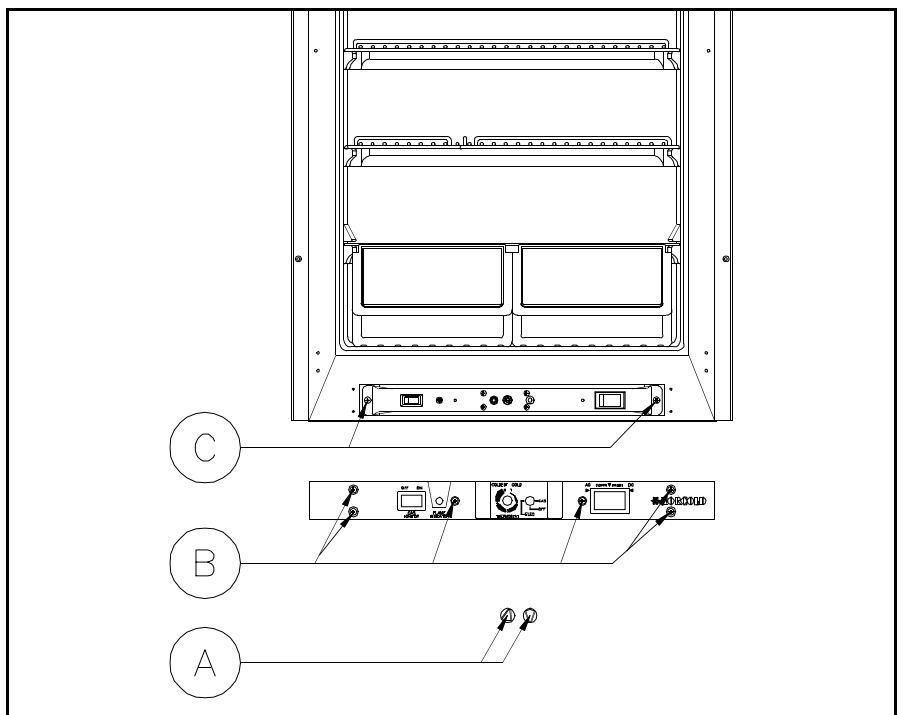

Figure 3.43 Access to Controls
5. If preceding checks did not reveal the cause of malfunction, then access to the control panel is required as shown in Figure 3.43. The first step in gaining access is to remove the two control knobs (A), then remove the (6) Phillips head screws (B) as shown. Once control panel has been removed, you need to remove (2) Phillips head screws (C). Then pull the control mounting bracket forward. This allows access to the controls.